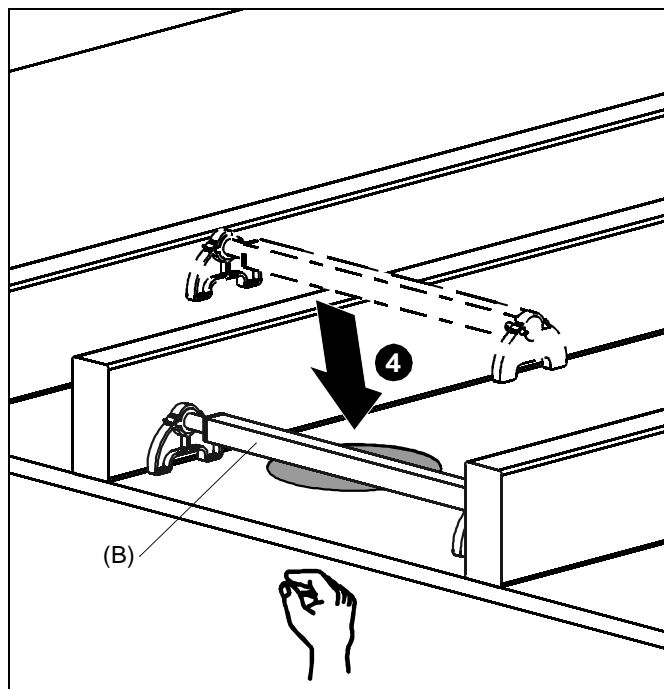

Figure 1
3. Lift the junction box assembly (B) bar into place above the ceiling. (See Figure 1)